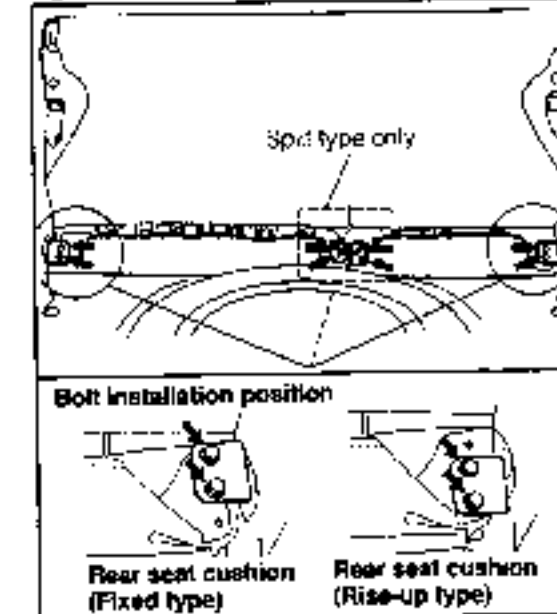

Fig. 9-345 WF-09265
- (3) Install the rear seatback assembly. (See Fig. 9-345.)